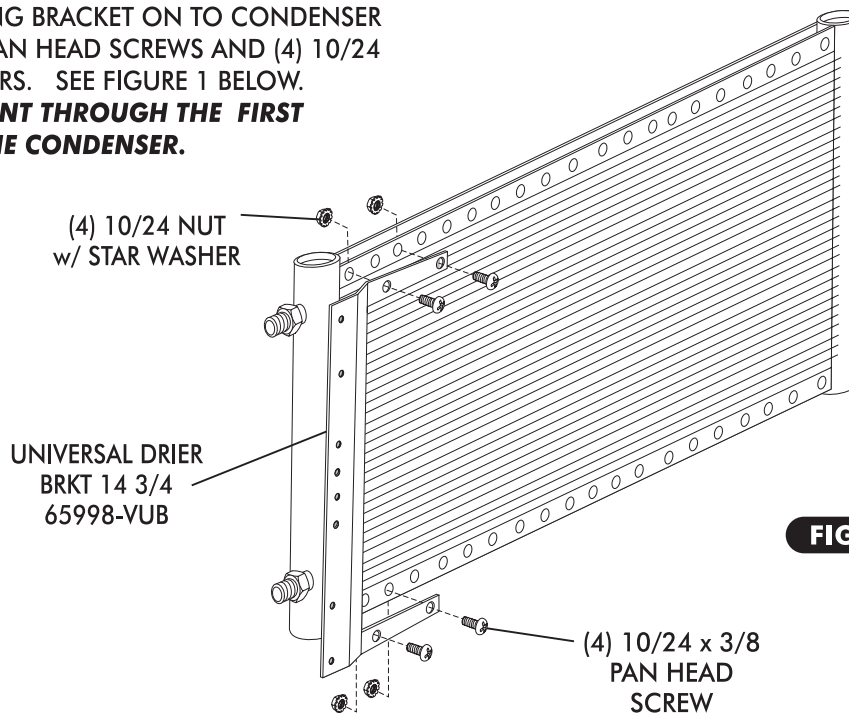

FIGURE 1
- ☐ INSTALL DRIER MOUNTING BRACKET ON TO CONDENSER USING (4) 10/24 x 3/8 PAN HEAD SCREWS AND (4) 10/24 NUTS WITH STAR WASHERS. SEE FIGURE 1 BELOW.